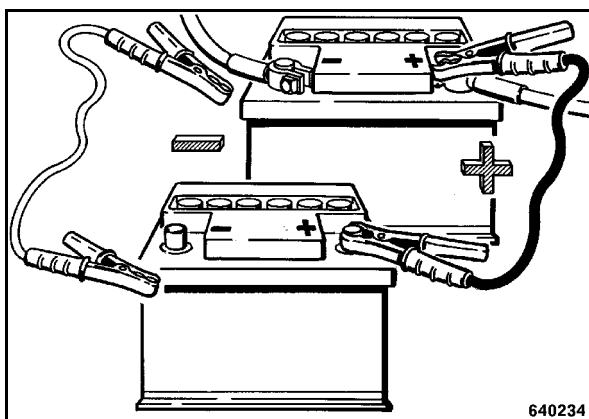

Fig. 34
- When starting with an external battery connect both plus poles (Fig. 34) first and both minus poles (earth cable) after.